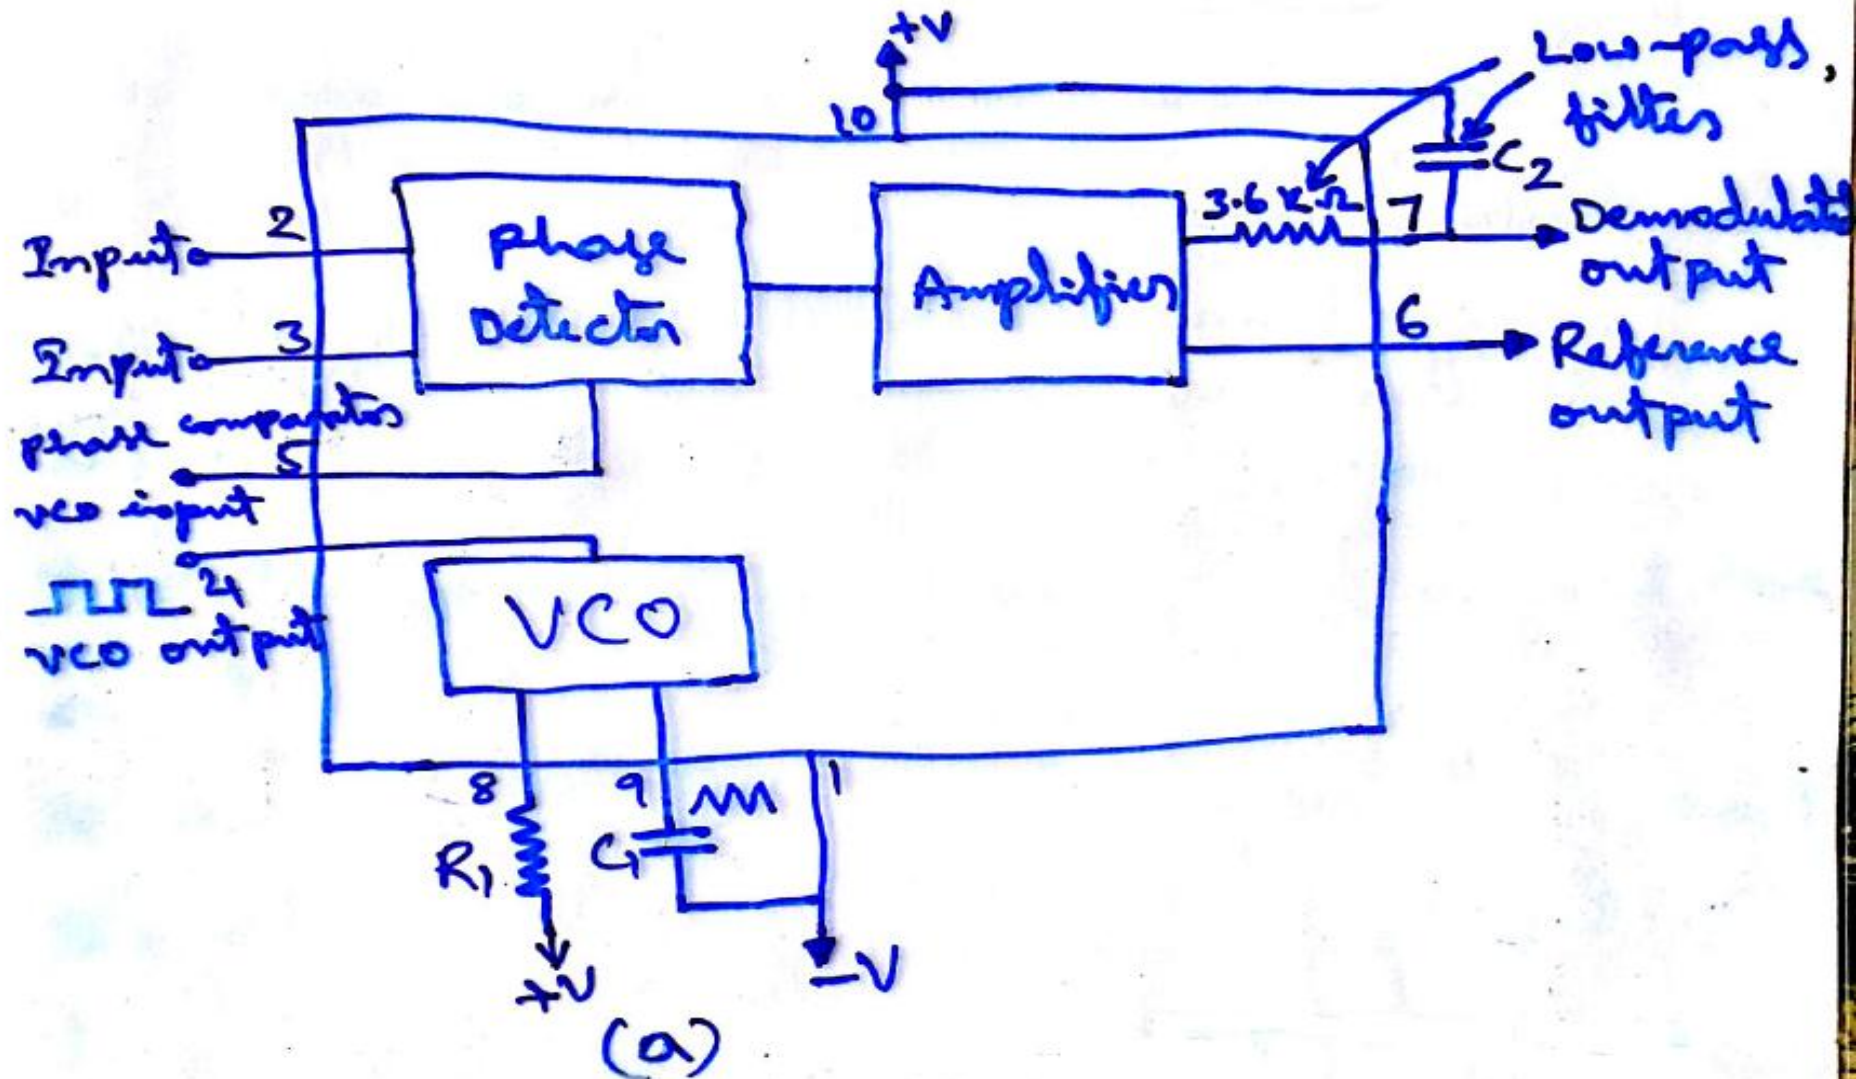

Fig 10-30 VCO Block diagram.
- The VCO generates an output frequency that is directly proportional to its input voltage. The block diagram of the VCO is shown in Figure 10.30.